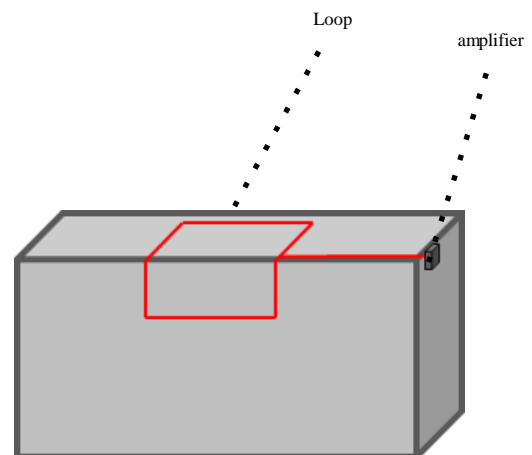

Figure 1.
**1.** There are 2 possibilities to place a loop in a counter as described below, however we strongly advise you to use the first version: Place the loop on the vertical and horizontal portion of the counter as shown in figure 1. This type of installation ensures better coverage in front of the counter.